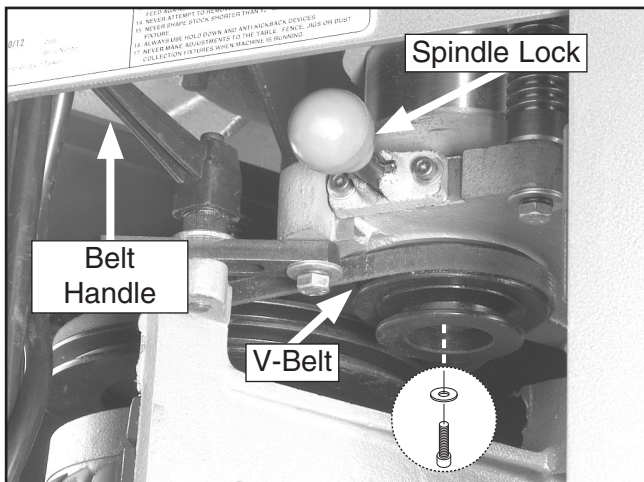

Figure 7. Locations under table.
- Open the cabinet door, unlock the belt handle, and remove the V-belt from the spindle pulley (**Figure 7**).
- Using a 5mm hex wrench, remove the cap screw and flat washer from the bottom of the pulley (**Figure 7**).
- Disengage the spindle lock, and remove the spindle pulley and key located at the bottom of the spindle (**Figure 7**).